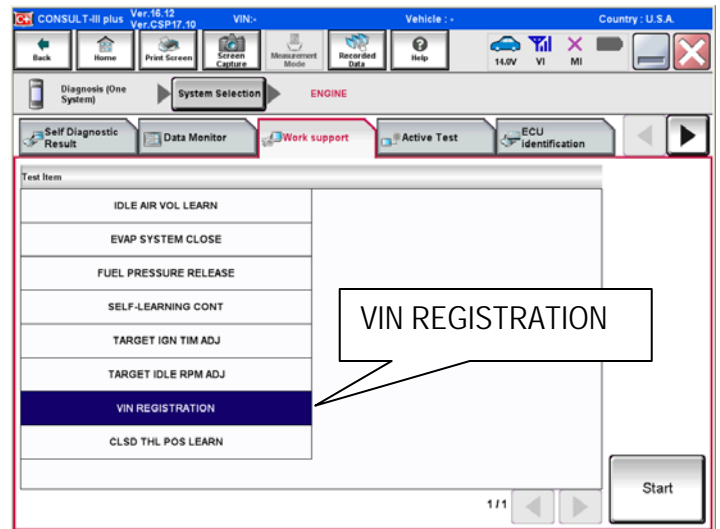

Figure 6
- a. Select "Diagnosis (One System)", "ENGINE", "Work support" and "VIN REGISTRATION". See Figure 6.